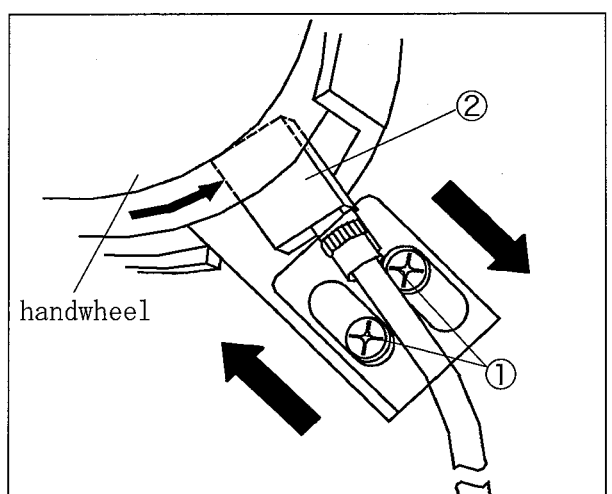

Fig. 7
- If the needle stops after the highest position, move the synchronizer ② to the right. (Fig. 7)